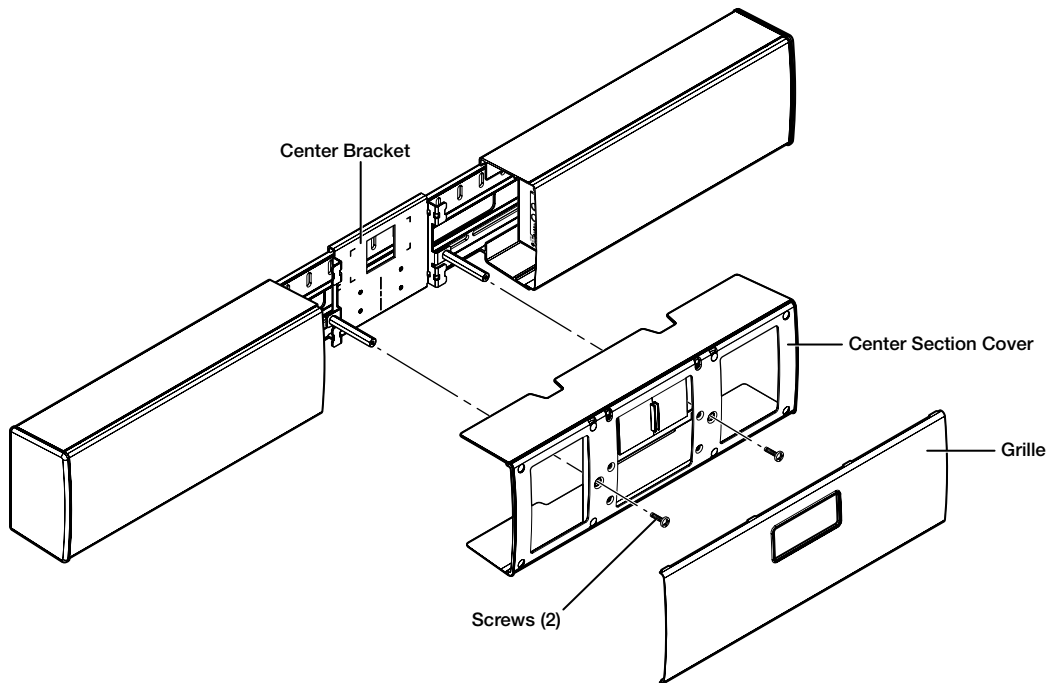

Figure 30. Attaching the Center Section Cover and Grille
1. Slide the center section cover over the center section and attach the two cover screws to the center bracket standoffs being careful not to overtighten the screws (see figure 30).
2. Attach grille to the center section cover (see figure 30).